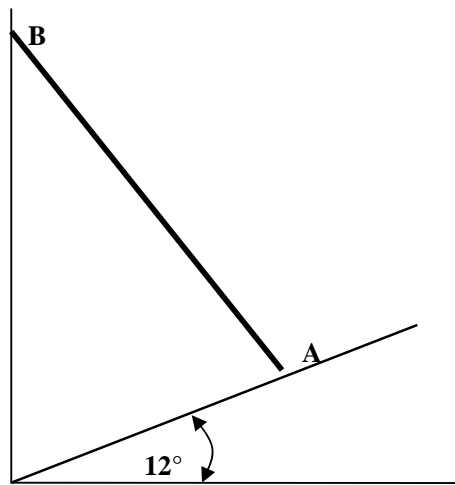

Fig Q9
9. A uniform ladder AB 3.8m long rests on a smooth plane. The plane rises at an angle of  $12^\circ$  to the horizontal, away from a vertical wall as shown in Fig Q9. The coefficient of friction between the ladder and the wall is 0.7.